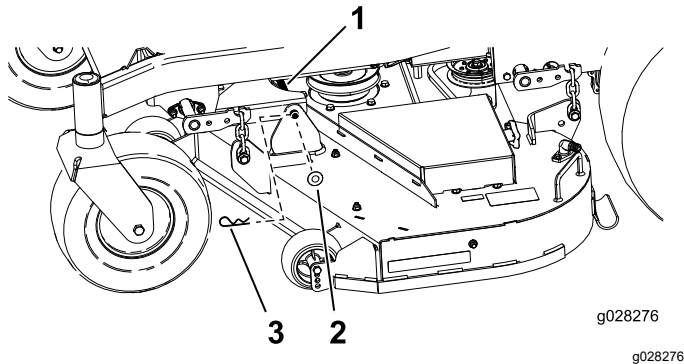

**Figure 65**
5. Loosen the adjustment bolts on all 4 corners so that the deck is sitting securely on all 4 blocks (Figure 65).
6. Ensure that there is tension on all 4 chains (Figure 65).
7. Tighten the 4 adjustment bolts (Figure 65).